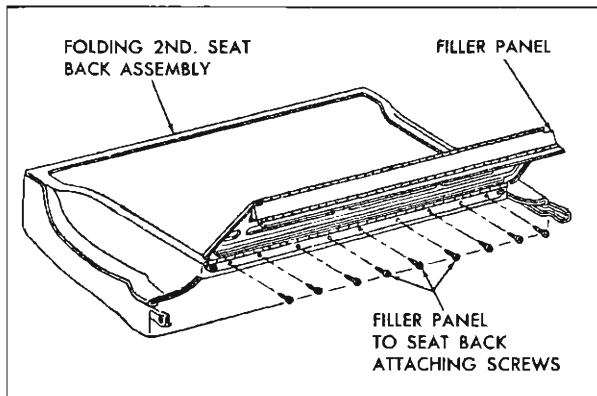

Fig. 8-5 Rear Door Filler Panel
3. Fold filler panel forward sufficiently to remove screws which secure panel to folding 2nd seat back assembly and remove filler panel from body (Fig. 8-5).